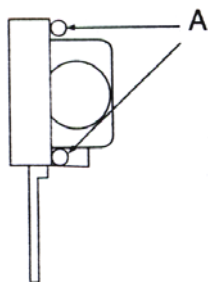

Fig3-3
3. replacement of blades (as Fig3-3)